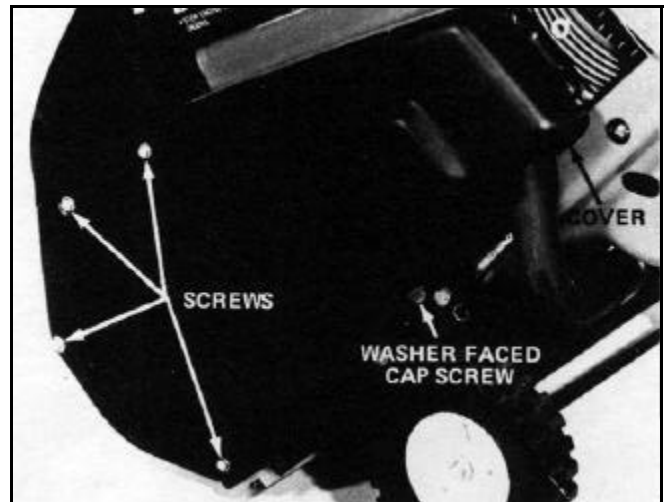

Figure 58
2. Remove the washer faced cap screw. On the 1975 Snowmaster, the cap screw is located at the top of the drive cover. Next, remove the four screws and locknuts holding the drive cover in place (Figure 58). Remove the cover.